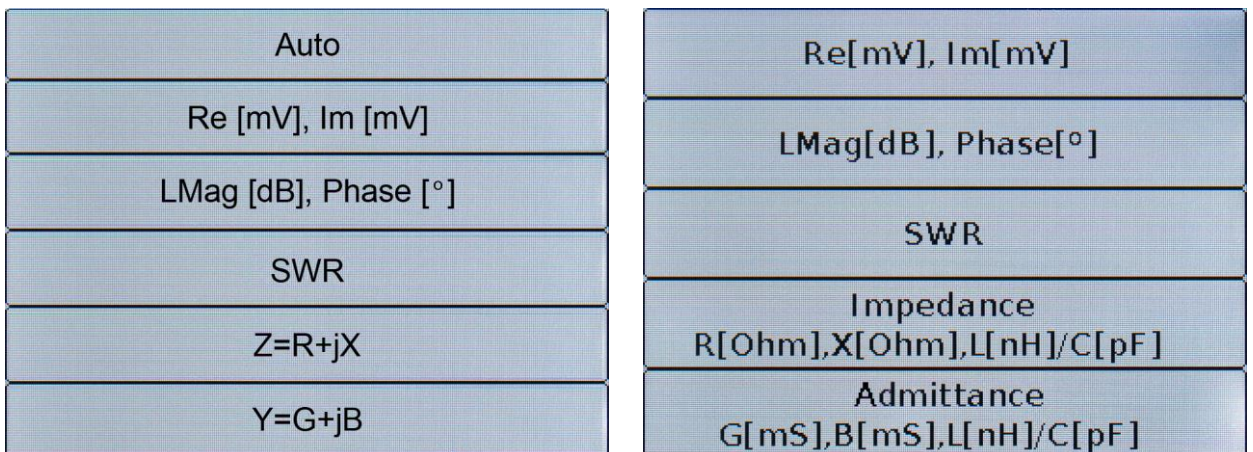

Figure 9.9 – Selecting the type of values displayed by the marker ARINST VR 1-6200 and ARINST VR 23-6200
9.4.3. To adjust the marker by the type of displayed values, click on the corresponding marker in the **Type** column. The menu for selecting the type of values displayed by the marker will appear on the screen (Figure 9.9).